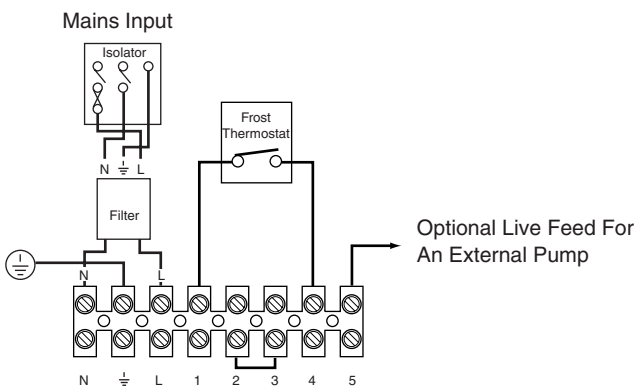

Fig. 31
1. The frost thermostat is connected between positions 1 and 4 (Figs. 31 or 31a). Secure the incoming cable/s with the cable clamp and replace the cover.